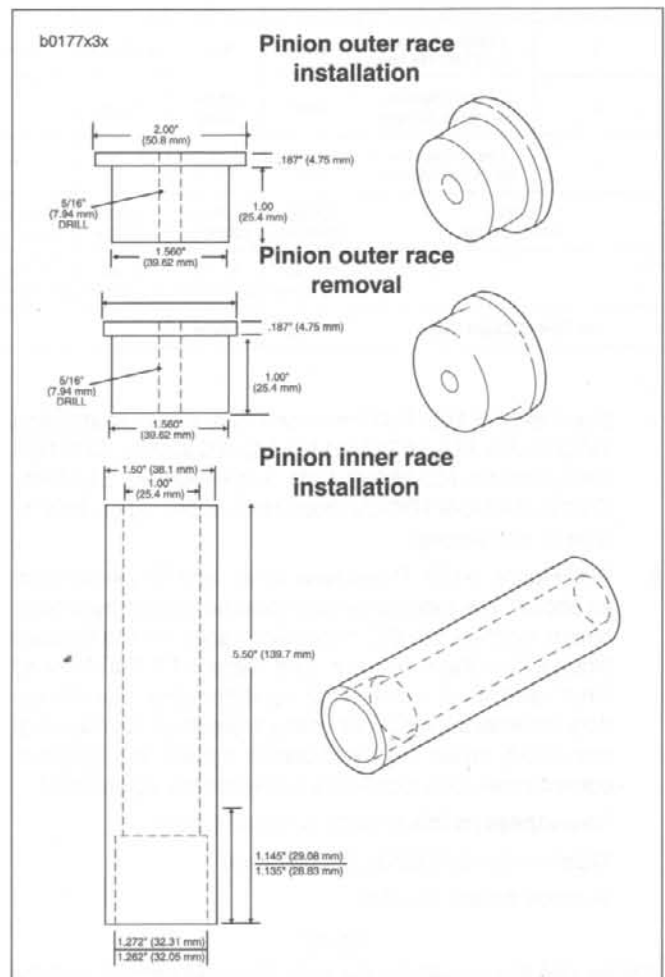
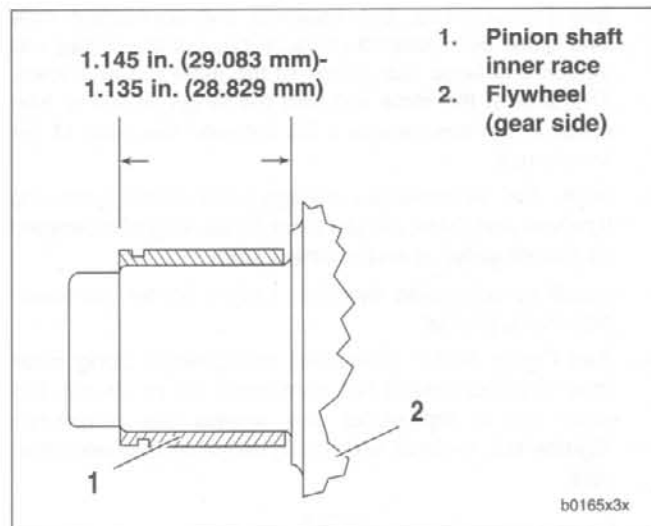

Figure 3-109. Pinion Shaft Bearing Tools
Figure 3-110. Inner Race Location
See Figure 3-109. Dimensions are shown for fabrication of tools used in pressing the outer race into or out of crankcase.
8. See Figure 3-110. Press **new** inner race on pinion shaft as shown. The **new** inner race must be ground by a competent machinist to OD dimension range for the finished lapped ID of the outer race. See Table 3-17. The finished inner race must meet these specifications. For necessary dimensions for constructing a press-on tool see Figure 3-109. When the tool bottoms against the flywheel, correct inner race location is automatically established.